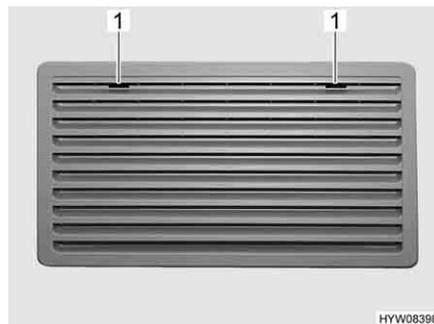
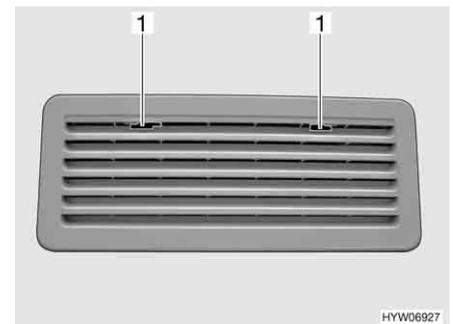

Fig. 191 Refrigerator ventilation grill (Thetford large)
Fig. 192 Refrigerator ventilation grill (Thetford small)
- Move the locking device (Fig. 191,1 or Fig. 192,1) to the middle.